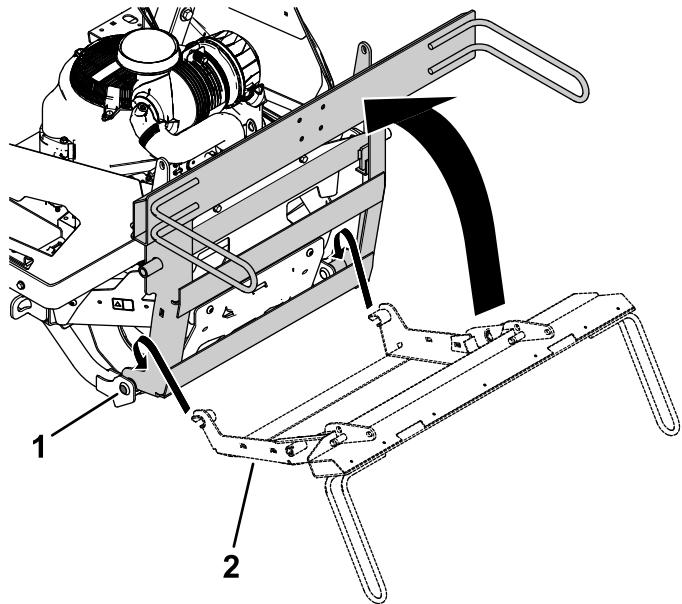

Figure 15
1. Arrange the bagger frame around the pivot pins on the support bracket and rotate it forward (Figure 15).